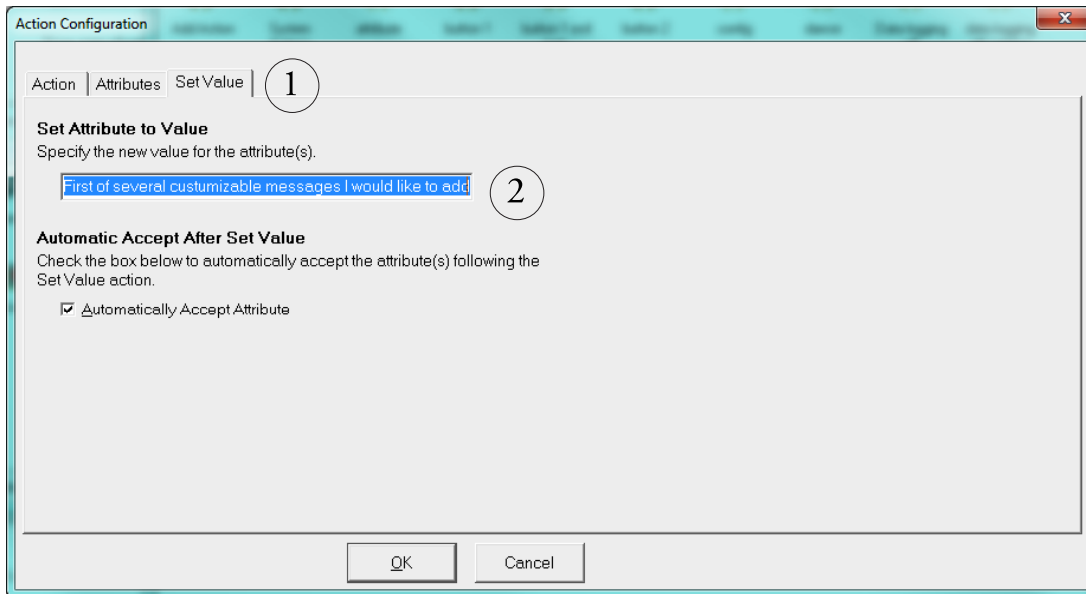

Figure 34. Customizable Message.
- 6.1 Check the box next to Act on all Measurements (*Part 1 in Figure 34*).